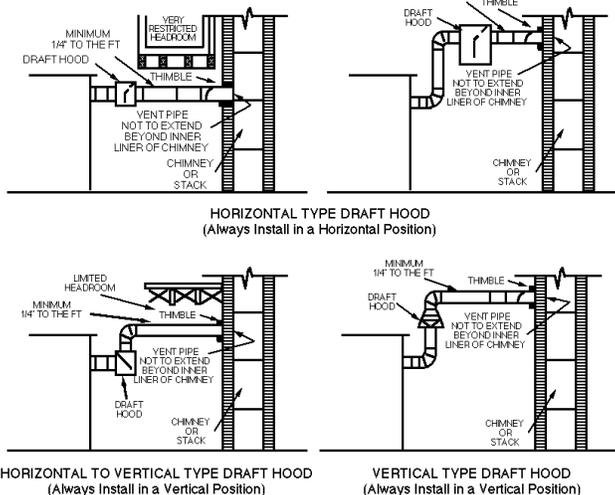
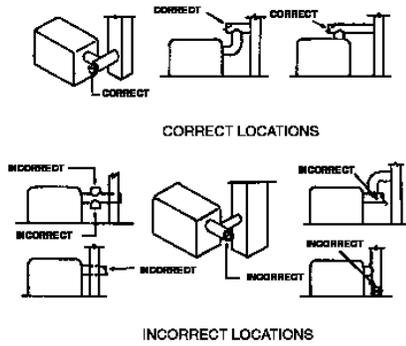

Figure 9: Recommended Locations for Draft Hoods
Figure 10: Location for Barometric Damper
Figures 9 and 10: Copyright by the American Gas Association.
- Two kinds of draft control are acceptable; an A.G.A. type draft hood as illustrated in Figure 9, or a barometric damper as shown in Figure 10. Use of a draft hood is usually limited to burners with lower range capacities, while a barometric draft control is suitable for all capacities. Application should depend on the requirements of the installation.
flue gases does not interfere with its operation. See Figure 10 for proper installation.